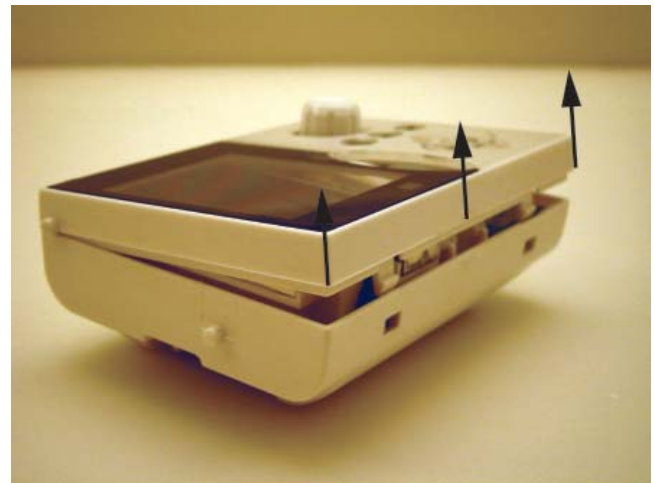

Figure 8
2. With both tabs released, carefully pull the **bottom** of the faceplate up and away from the keypad as shown in **Figure 8** until it stops moving freely. Carefully pull the top of the faceplate clear of the keypad to remove. Do not touch, pinch, poke or otherwise contact the flex board circuit connected to the top of the LCD. Damage to the flex board will disable the LCD.
5. With all keycaps in place, replace the faceplate in reverse process to step 2. Carefully align the top of the faceplate with the keypad body as they appear in **Figure 8**. Slowly press the bottom of the faceplate until the keycaps begin to push through their openings. Visually inspect the keycaps to confirm that they are properly centered in the faceplate openings. With the keycaps in place, press the bottom corners of the faceplate until it snaps into place.